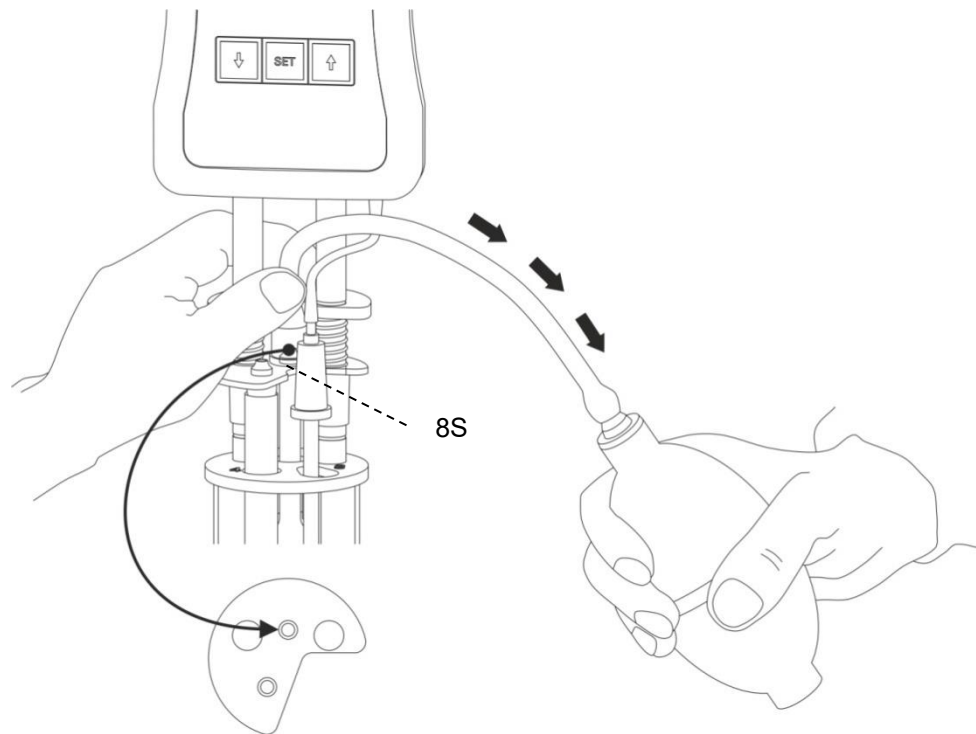

Fig. 9 Suction mode liquid handling with manual pump VZ 6554
**Do not pump the sample liquid into the measuring sphere using the manual pump after pressing the start key! (16)!** The installed ventilation valve of the ViscoClock *plus* is open. When using Ubbelohde viscometers (with ventilation tube) and for pushing operation, the sample would be pumped into the ViscoClock *plus* via the ventilation tube. **This results in damage to the unit!**
(b) on silicone plug (8S) above the capillary tube (22) for suction operation (see  **Fig. 9**)